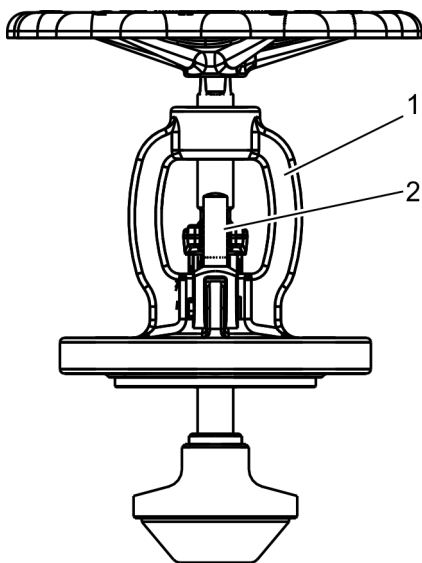

Fig. 28: Taking off the bonnet
11. ▶ Detach the complete bonnet (Fig. 28/1) including the stem (Fig. 28/2) and gland packing from the body with the hoist.